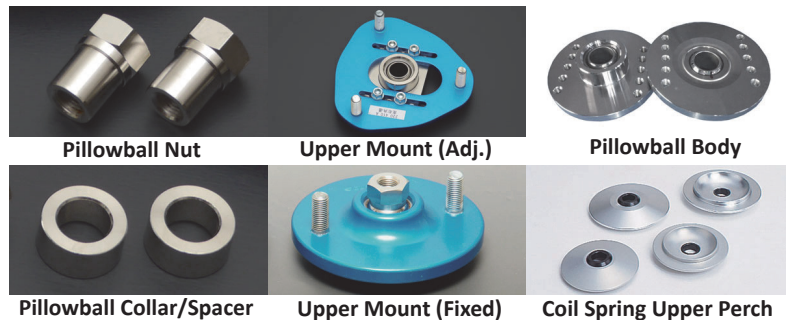

Fig.3 Require both Upper & Lower Collars in case of B-Size area was wide.
- **ID (Inside Diameter):** Select larger Collar ID than un-threaded Shaft OD (R)
- **Bottom Shape:** This surface sits on Upper Spring Perch and carefully select the OD to cover the area enough on Upper Spring Perch or OE Upper Mount. If the upper mount is Non-Camber Adjustable type and the spring sits on Upper Mount Plate directly (Fig.3), please select the collar and shape enough to cover B (Un-threaded area) to fill the gap if needed. If the gap is not filled enough, it may cause to making noise and damage the shock absorber.
- **Height / Thickness (P):** This is important to select the right height / thickness for "Camber Adjustable Type" Upper Mount. When the suspension moves up/down or adjusted the camber angle, the strut will make the angle. It requires to maintain minimum 5mm clearance between Upper Mount and Upper Spring Perch at maximum tilt angle. (Not apply to Fig.3 type) So, please select the collar height carefully to have enough clearance. Nut with Countersink type is for the strut shaft which does not have enough threaded area and have the minimum collar height.
★ How to select Upper Pillowball Collar (If Pillow Nut cannot be used - Fig.3 Type)
If Un-threaded area (B) is wide and Threaded is short as showing Fig.3, Pillowball Nut cannot be used with Upper Mount. In this case, use both lower and upper collars and tighten with Flange Nut from top. Please measure the height of collars to have enough threads.
- **Top Shape:** Use Flat shape of collar to tighten from Top with Flange Nut as showing Fig.3. (Flange Nuts are NOT included in the kit) Ex.) If thread is M14(mm), select larger ID of collar than 14.0mm
- **Bottom Shape:** Select the right shape (T-Shape - Red area in Fig.3) to fill the gap between Shaft OD and Pillowball ID (18mm).